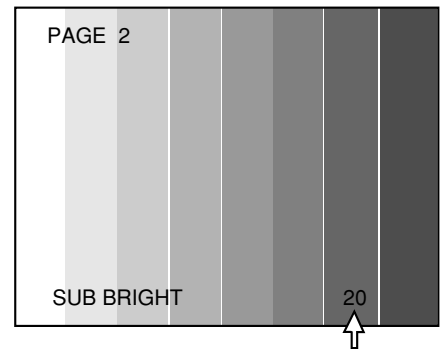

Fig. 2-2 2nd from right
1. Using the volume keys on the jig remote controller, adjust the scale of the second last from right to be slightly brightened. (Fig. 2-2)